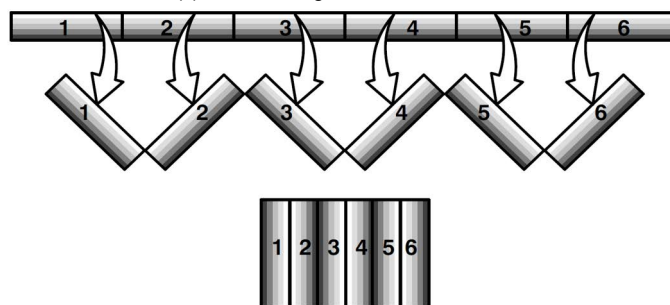

Figure 1. Color Matching
3. In general, translucent film and reflective film from a roll can be matched as shown in Figure 1. The dark lines represent one edge of the film or films.